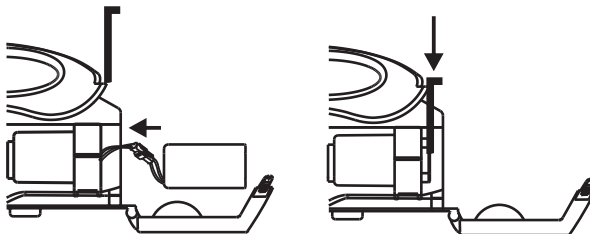

Fig. 9
- (D) Connect a new rechargeable battery pack to the connecting cable. Slide the battery pack back into the slot carefully. Insert the interior steel plate downwards. See Fig. 9.